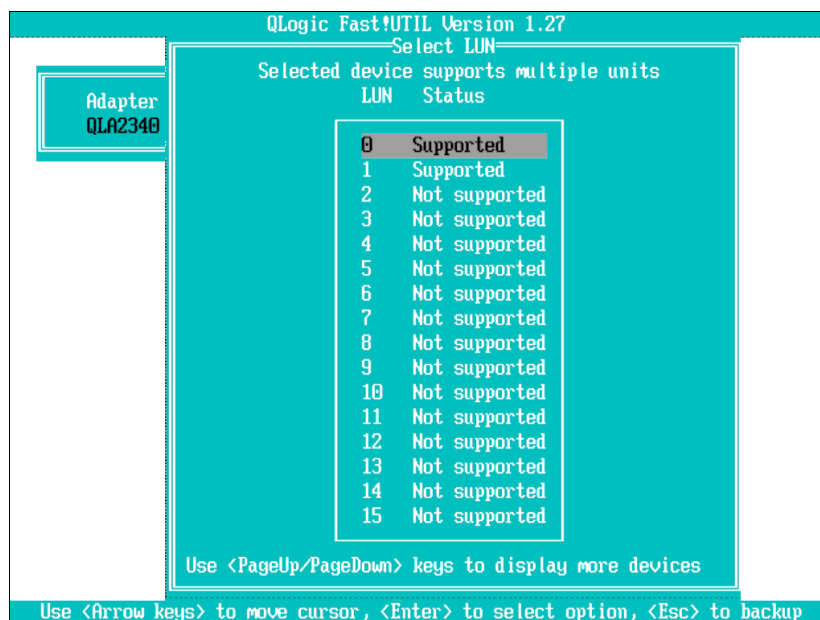

Figure 1-15 Select LUN menu
10. The Select LUN menu opens (see Figure 1-15). Select the boot LUN (in this example, LUN 0).